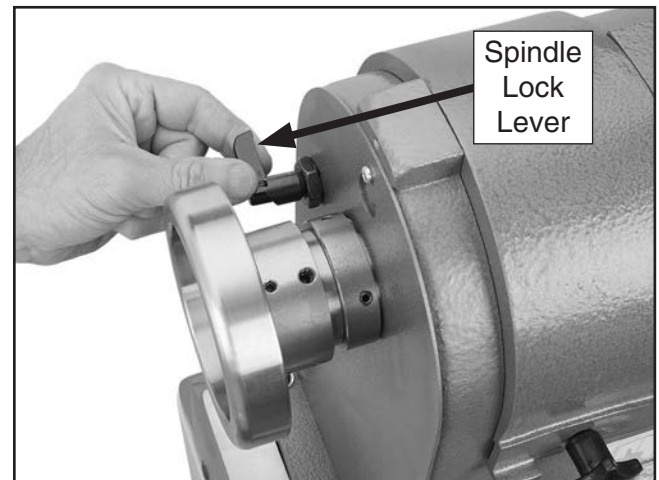

Figure 13. Unlocking the spindle.
5. To unlock the spindle so that it can freely rotate in the next steps, pull the spindle lock lever out and rotate it so that it is in the twelve o'clock position, as shown in **Figure 13**.